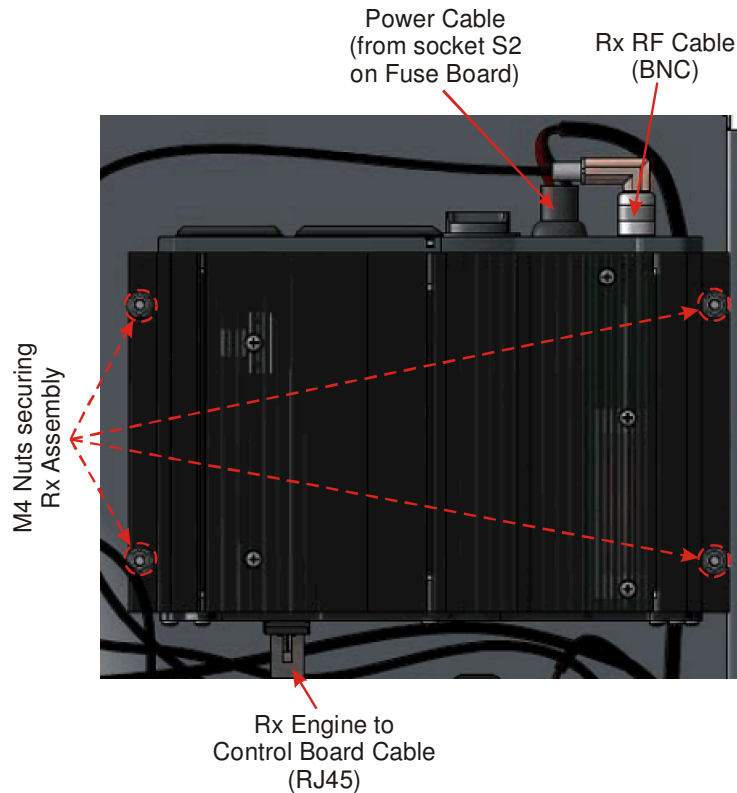

**Figure 11. Removal of Tx Assembly.**
4. On the Tx Assembly, referring to **Figure 11** below, carry out the following: